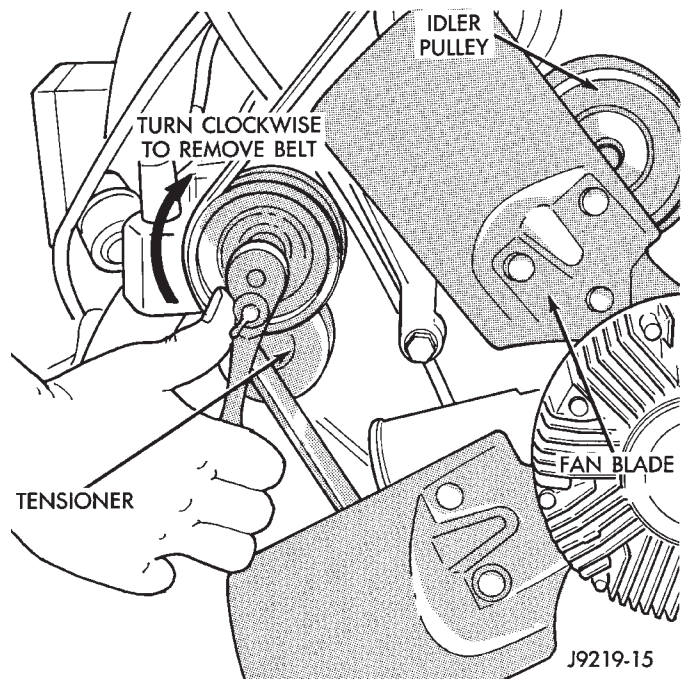

Fig. 22 Belt Tensioner Assembly—5.2L Engine
(8) Remove accessory drive belt as follows: The drive belt is equipped with a spring loaded automatic belt tensioner (Fig. 22). Relax tension from belt by rotating tensioner clockwise (as viewed from front) (Fig. 22). When all belt tension has been relaxed, remove accessory drive belt.
(7) Connect throttle body control cables.
(8) Install oil dipstick mounting bolt.
(9) Install idler pulley. Tighten pulley bolt to 54 N•m (40 ft. lbs.) torque.
(10) Relax tension from belt tensioner (Fig. 22). Install drive belt.